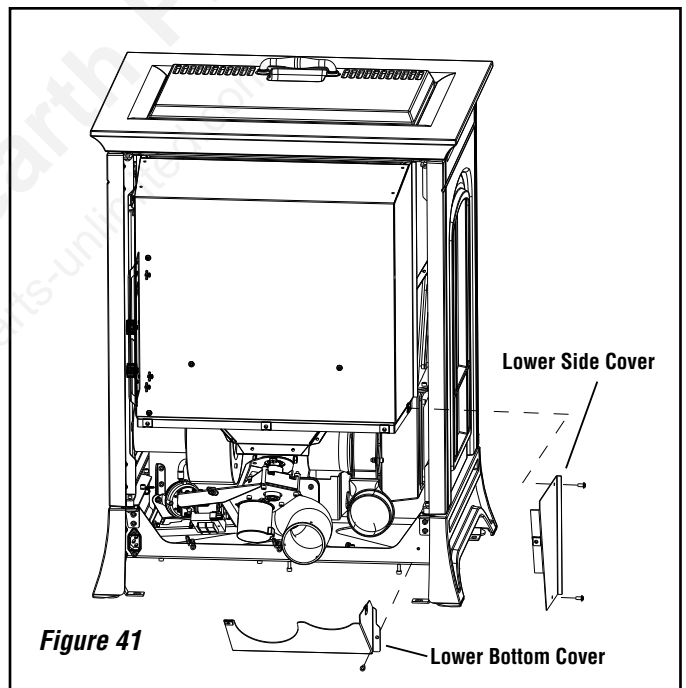

Figure 41
1. Locate the side cover in the left rear portion of the stove (Figure 41) near the combustion blower and flue.
1. Locate the bottom cover (Figure 41) underneath the flue and air intake.